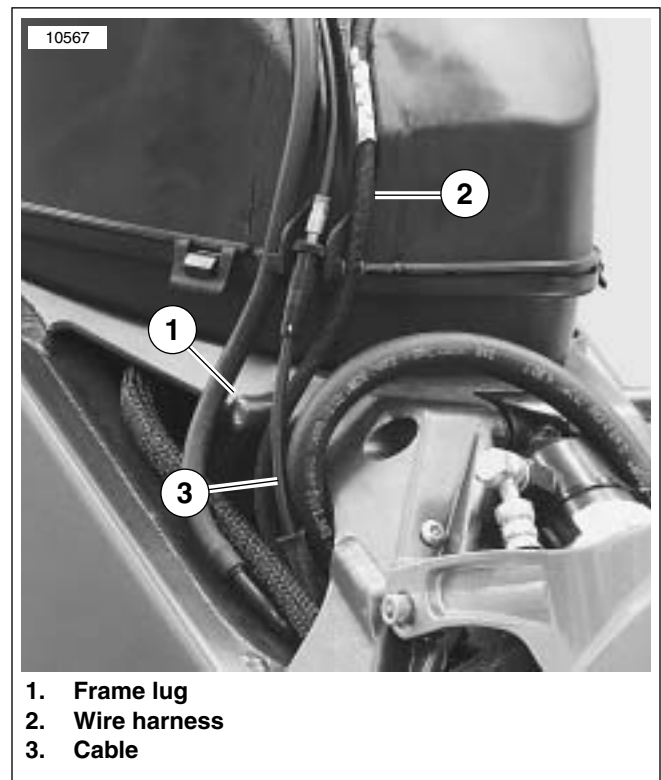

Figure 7-86. Correct Cable Routing Behind Frame Lug (Typical)
4. See Figure 7-86. Verify that the interactive exhaust cable (2) is routed behind the frame lug (1) before installing air intake cover.